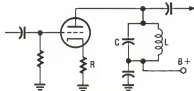

FIG. 1
1. Which of the following statements regarding the circuit shown in Fig. 1 is true: